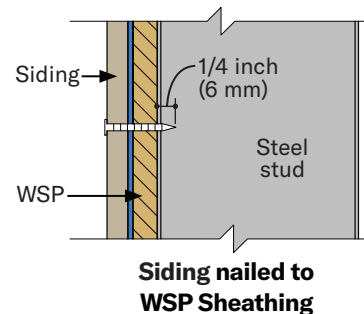

Figure 8b
- Siding may be nailed to WSP sheathing. (Figure 8b)